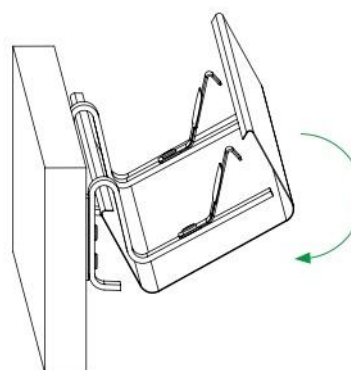

Figure 12
- Insert the first gutter into the brackets (**Fig. 12**).